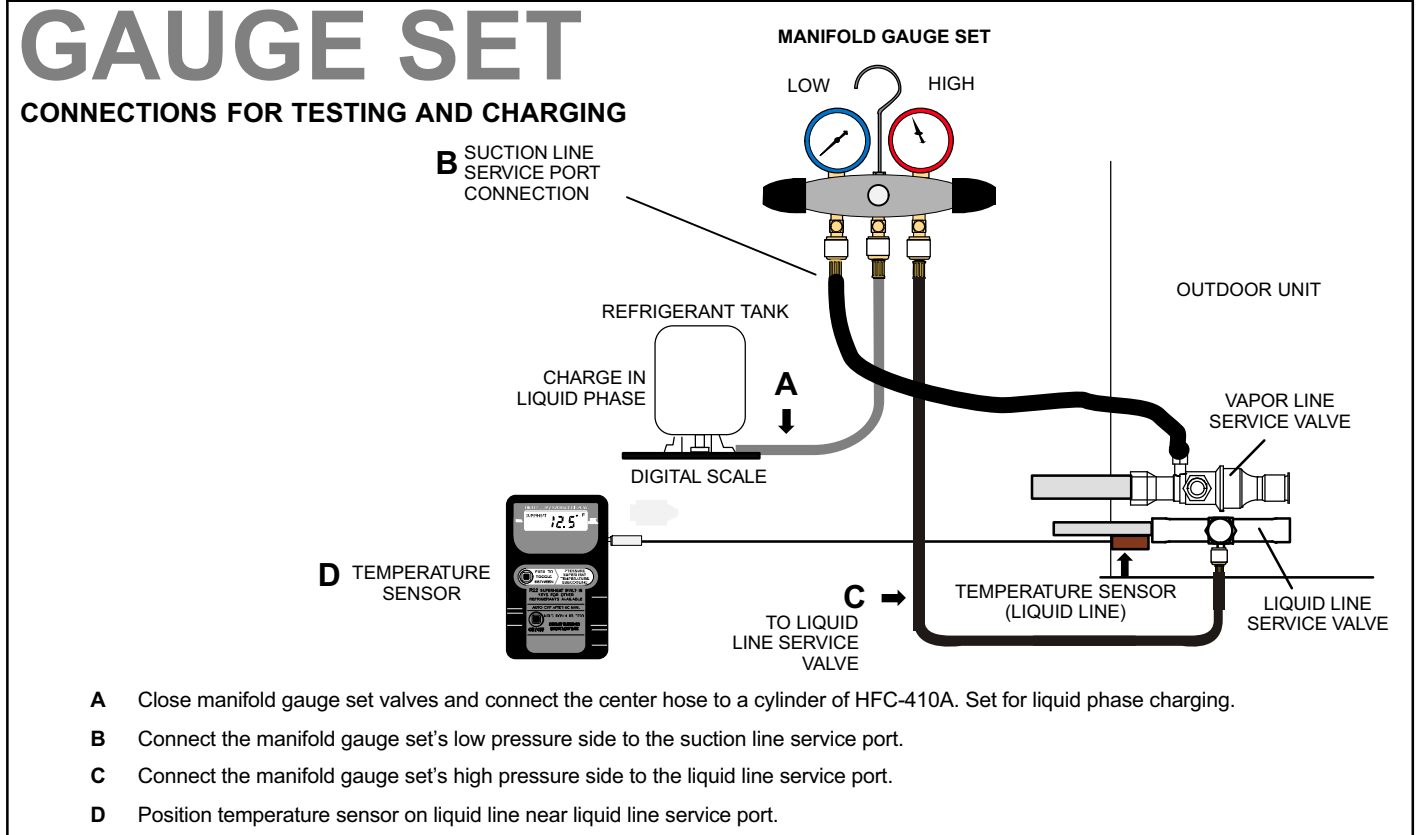

Figure 14. Gauge Set Setup and Connections
1. Connect gauge set as illustrated in figure 14.